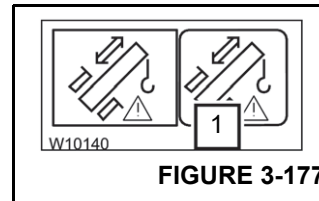

FIGURE 3-177
After correct input, the symbol (1) (Figure 3-177) is displayed, the Telescope Emergency Program starts.